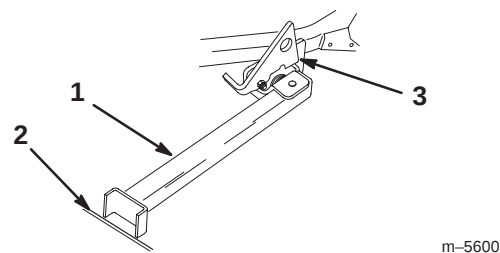

Figure 26
4. Set foot of stand on the ground and rest latch on pivot tab (Fig. 26).
- Note:** For best results, place foot of stand into seams in sidewalks or into turf (Fig. 26).
6. Drive onto stand. Stop when latch drops over tab into locked position (Fig. 26). Once onto stand, engage parking brake. Shut off engine.